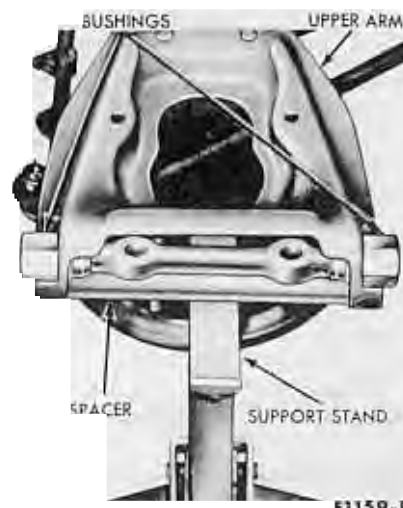

FIG. 7—Torque Upper Arm
11. Position the spacer parallel with the inner shaft, and force the spacer between the flanges of the upper arm (Fig. 7).